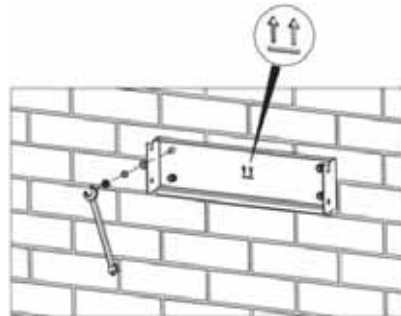

Figure 4.7 Fix the installation bracket
(4) Fix the installation bracket onto the expansion bolts and ensure the installation is firm enough (tightening torque  $8.5\text{N}\cdot\text{m}$ ). As shown in Figure 4.7.